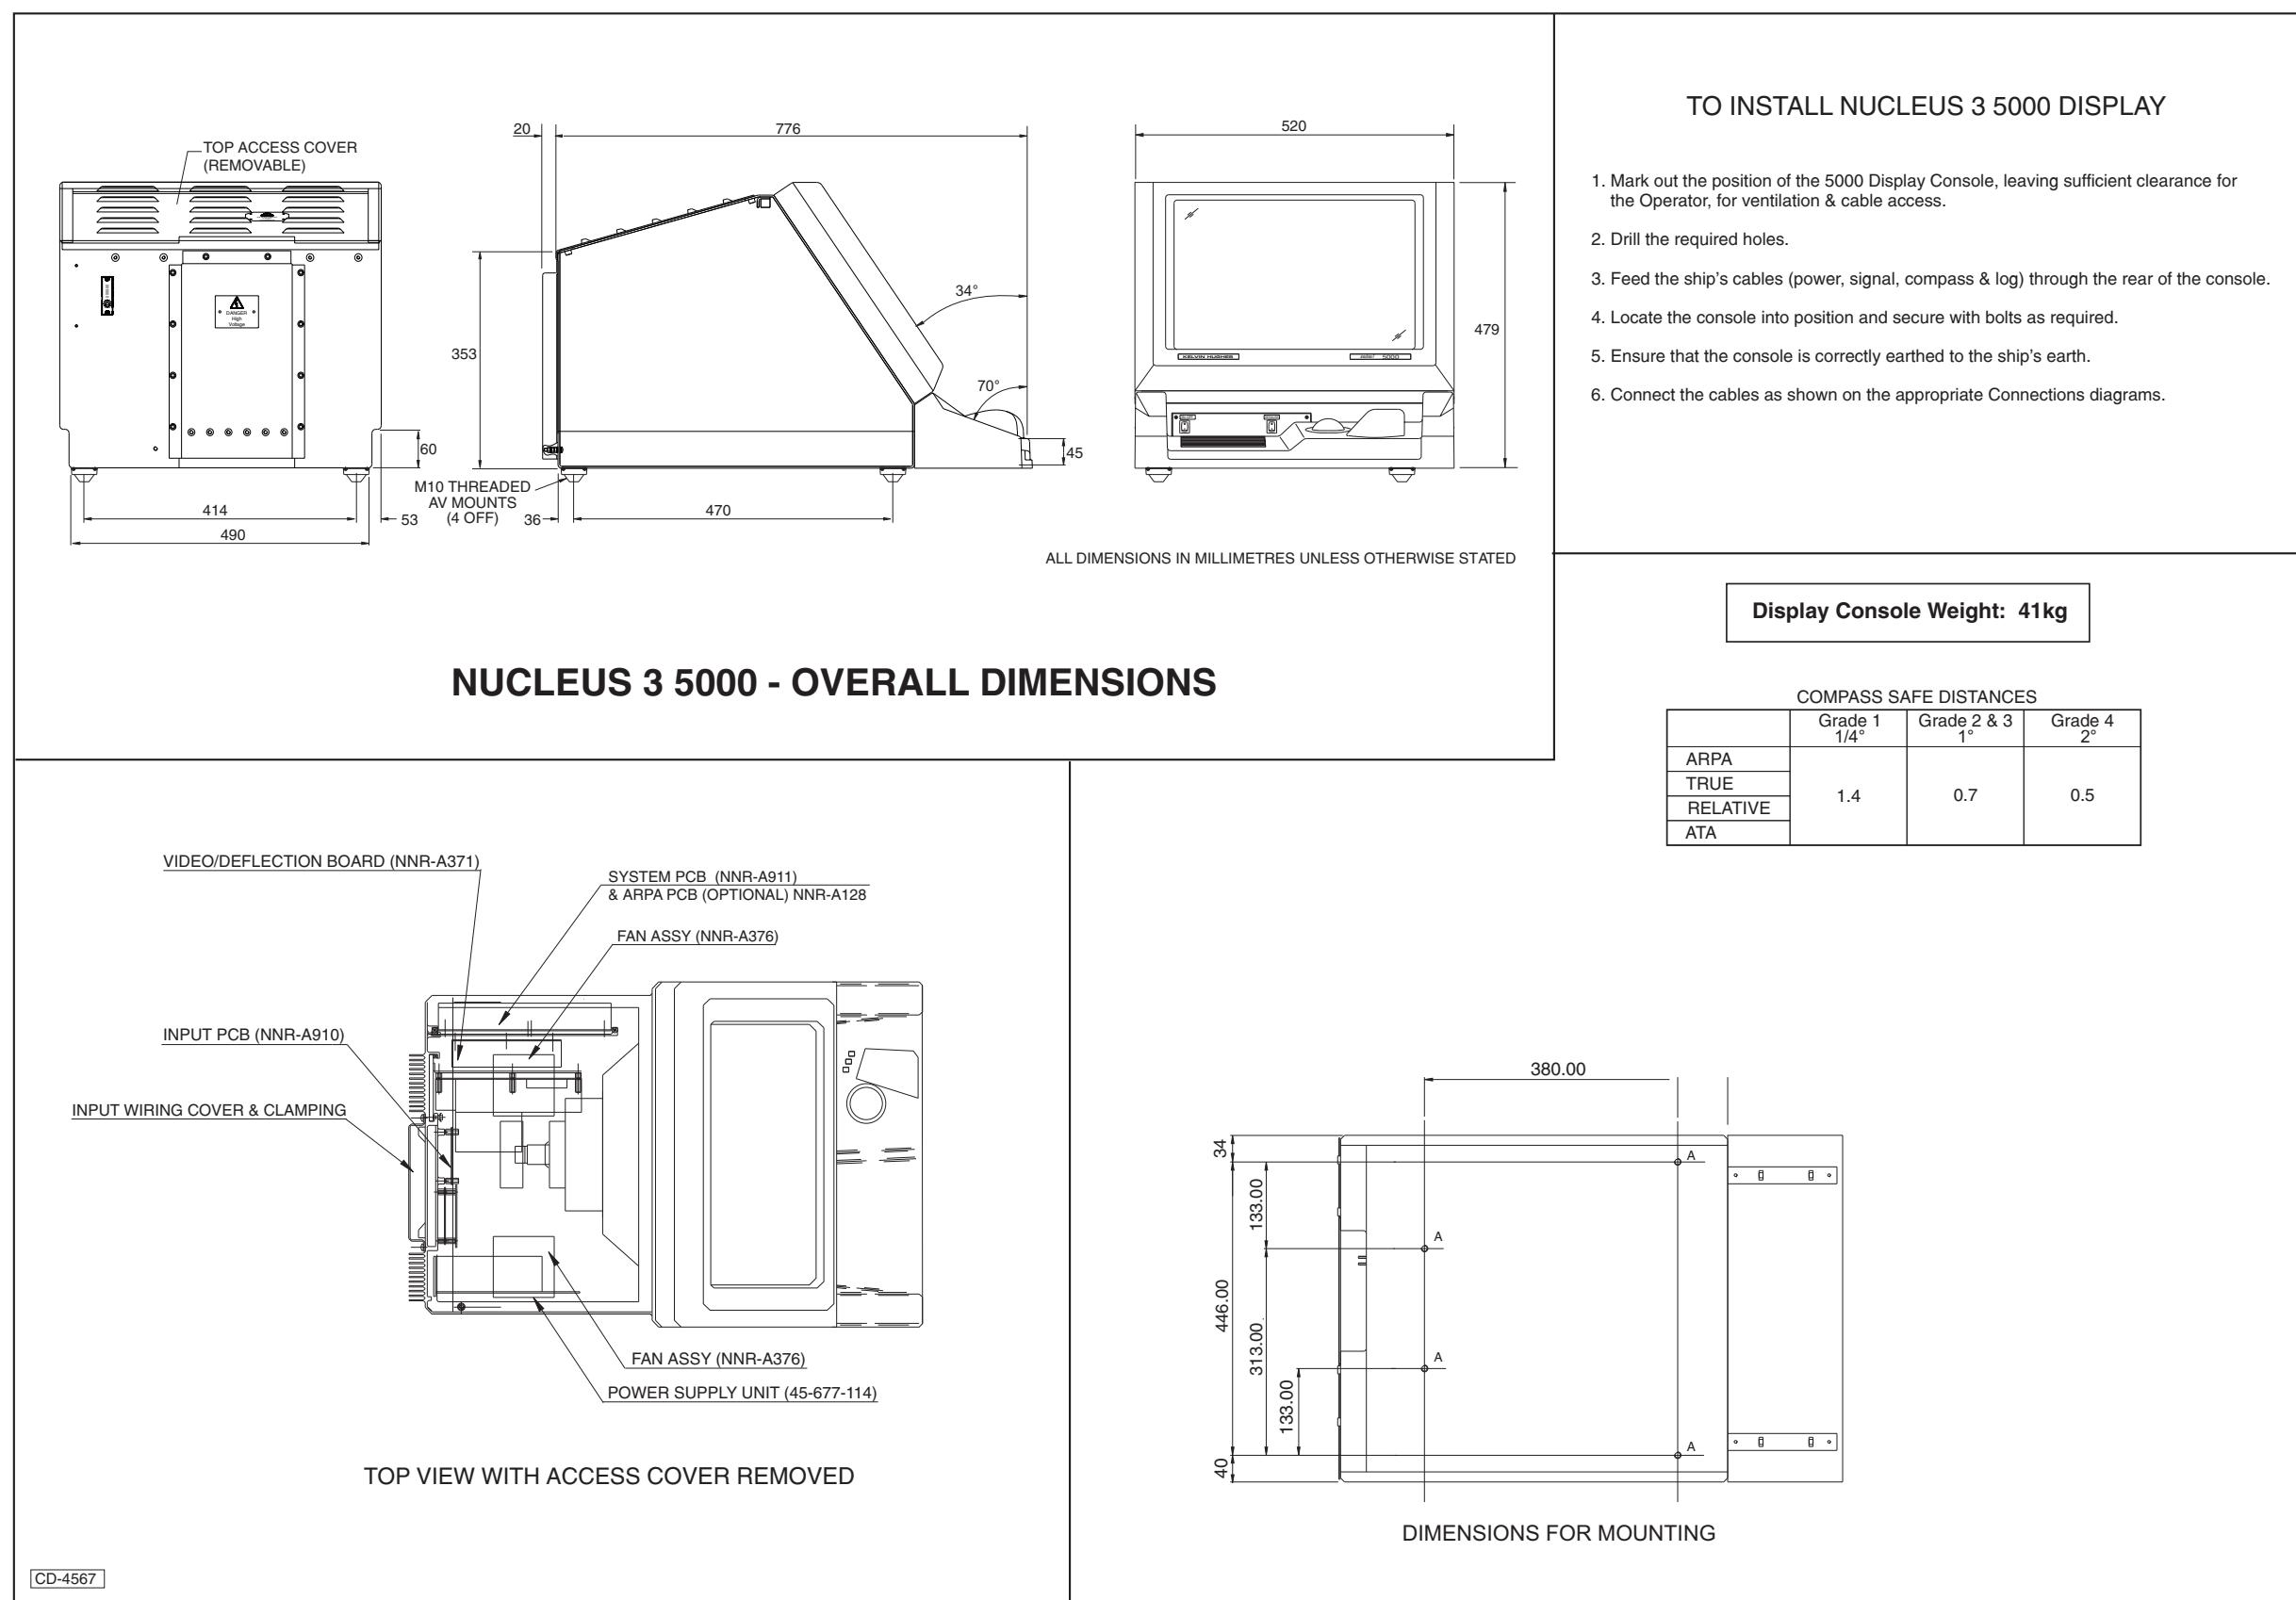

Figure 1a - Nucleus 5000 Display Installation Diagram
- 7 Install the desk top display according to the instructions provided on the Installation Diagram (Figure 1a).